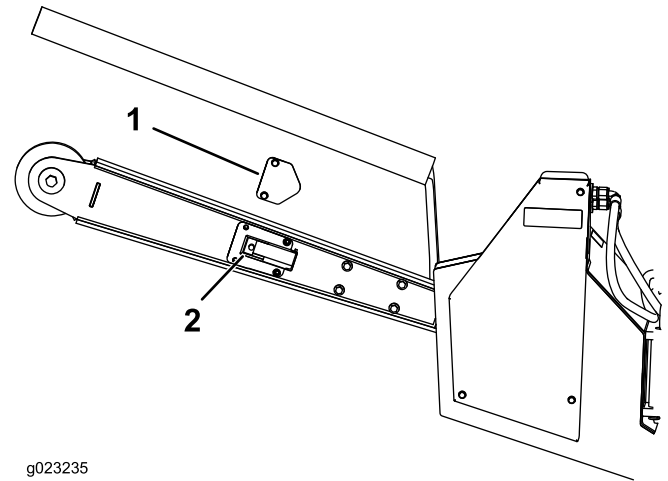

Figure 45
1. Remove the top access cover plate on the trencher boom to access the piston (Figure 45).